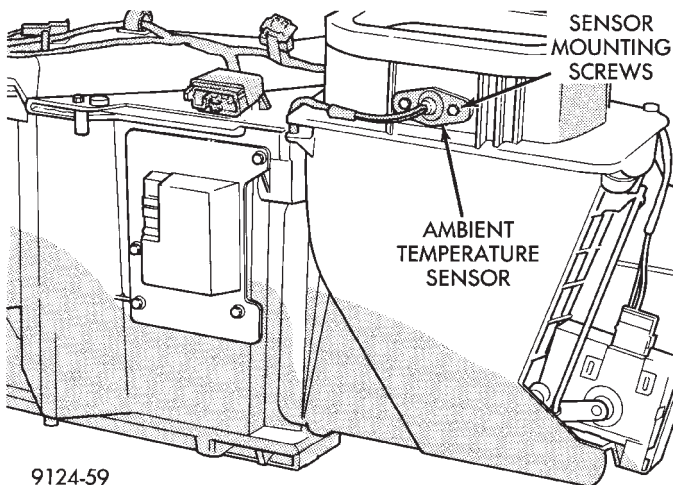

Fig. 11 Ambient Sensor Removal and Installation
(1) Remove glove box/ash tray assembly.
(2) Locate and remove two attaching screws on sensor receptacle (Fig. 11).